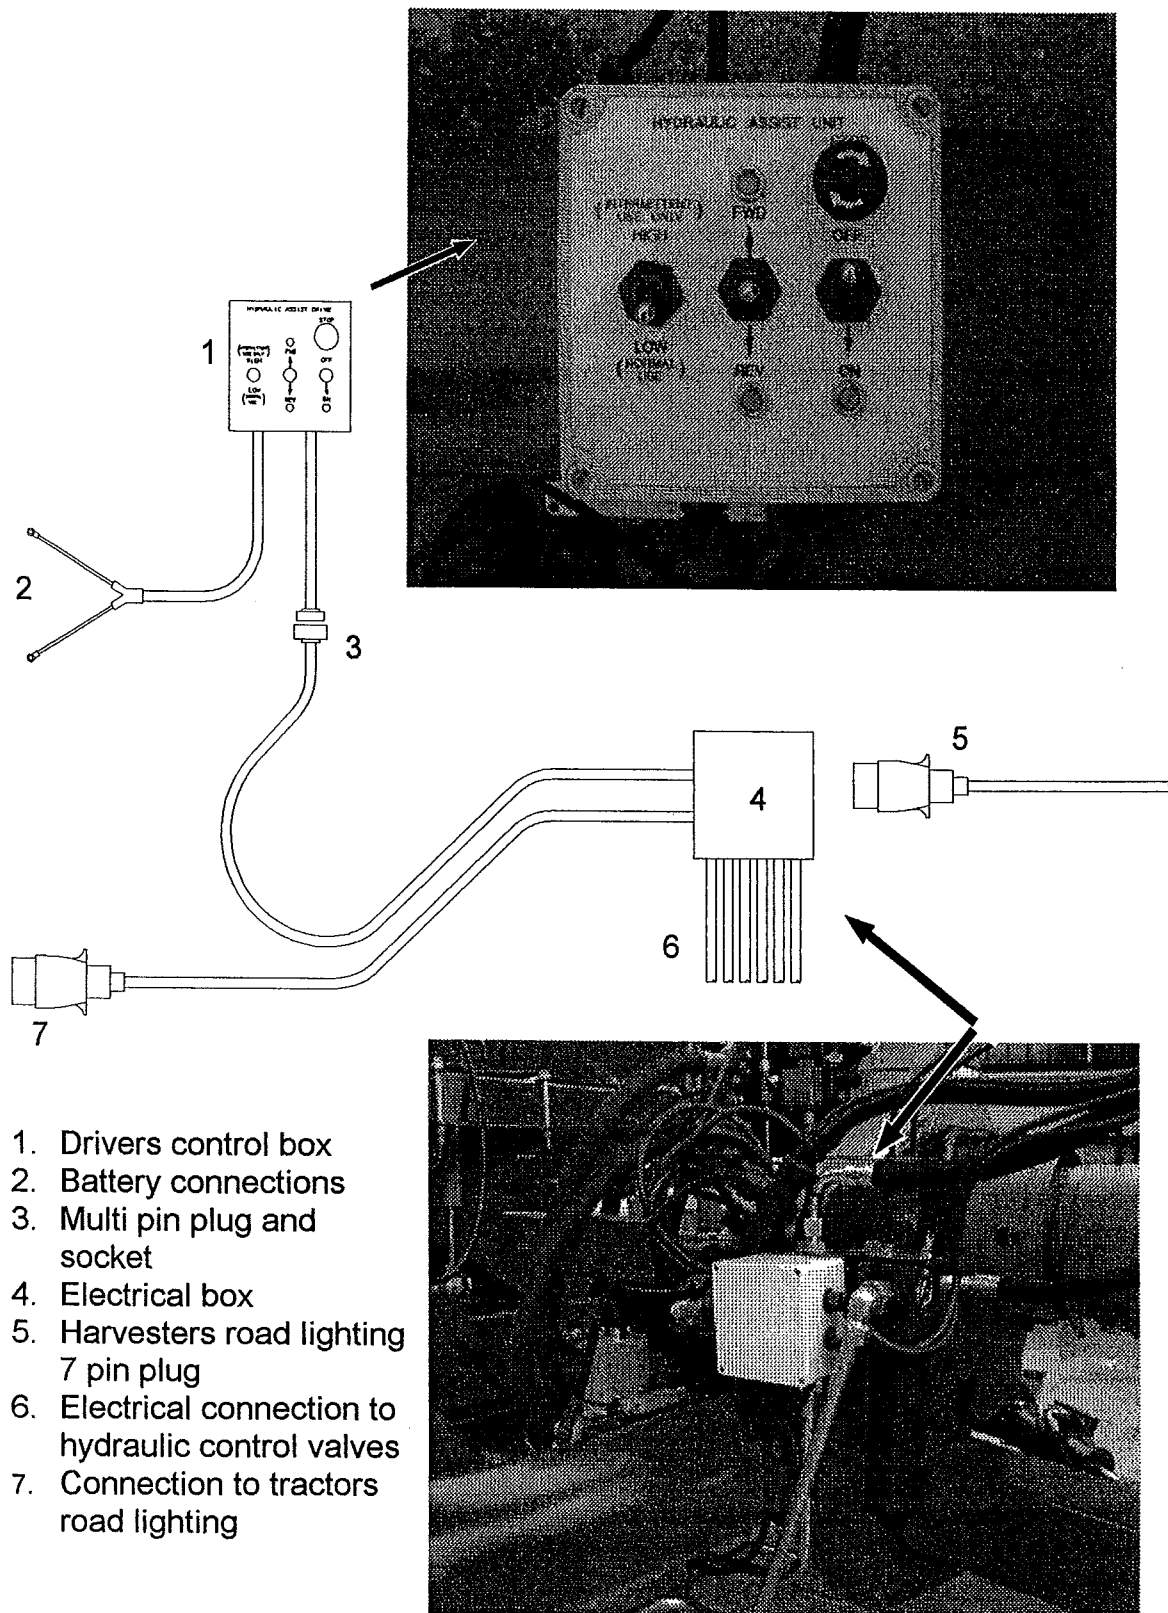

Fig 11.3
The driver has control of this system from an additional control box in the driver's cab. (Fig 11.3 item 1). With this control the driver can switch the drive on and off, select forward or reverse or choose high or low power. There is also an emergency stop button that disables the drive. There is an added safety feature where the electrical control of the wheel drive is coupled through the braking system of the tractor. If the tractor brakes are applied, then the drive system is disengaged and has to be reset to be operated again.
The machine is supplied with a power supply lead with eyelets for connecting to the tractor supply (Fig 11.3 item 2). The lead should be connected, via a suitable route on the tractor, to either the starter solenoid or the main battery. The red wire should be connected to the positive terminal on the starter solenoid or the main battery. The black wire should be connected to either the battery negative terminal, or to a suitable earth point on the tractor.
Between the driver control box in the tractor cab and the machine is an electrical cable with a multi pin connector (Fig 11.3 item 3). This is connected to an electrical cable that comes emanates from the electrical box mounted on the front of the harvester (Fig 11.3 item 4).
From the electrical box mounted on the front of the harvester (Fig 11.3 item 4) there is an electrical cable that ends in a standard, seven-pin trailer lighting plug (Fig 11.3 item 7). **THIS MUST BE FITTED INTO THE TRACTOR'S LIGHTING SOCKET. IT IS IMPORTANT THAT THIS IS FITTED TO COMPLETE THE SAFETY CIRCUIT AND THE ROAD LIGHTING CIRCUIT.** On the electrical box mounted on the front of the harvester (Fig 11.3 item 4) there is an electrical socket for the harvesters seven pin trailer lighting plug (Fig 11.3 item 5) to be plugged into.